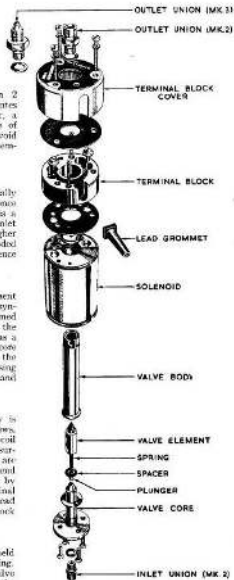

Fig. 2. Exploded view of valve
3. Both Marks of the valve are essentially the same in construction. The difference between them is that the Mk. 3 utilizes a modified valve body and has different inlet and outlet unions to cater for the higher working pressure involved. The exploded view of the valve (fig. 2) shows the difference between the unions.
4. Referring to fig. 2, the valve element has a conical valve and covered with synthetic rubber. The valve seat is formed within the valve body, which carries the outlet union at one end, and also acts as a guide for the valve element. The valve core carries the inlet union and screws into the other end of the valve body, thus enclosing the valve element, spring, spacer and plunger.